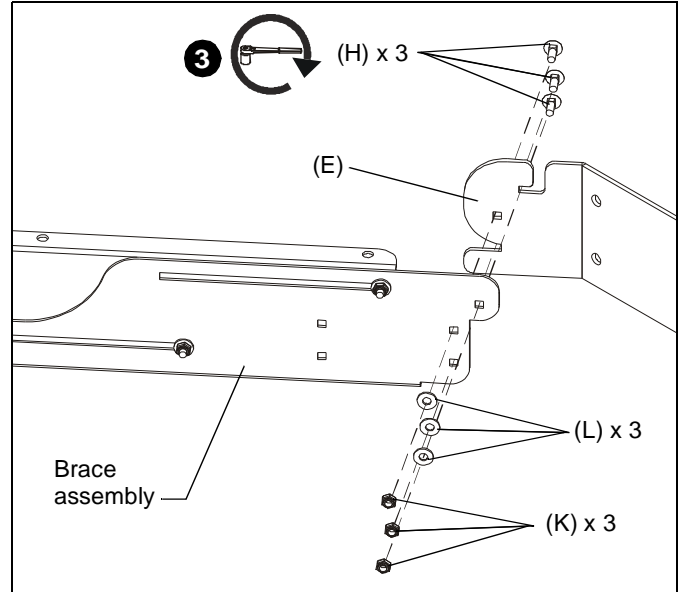

Figure 2
3. Attach one brace assembly which was created in Steps 1 and 2, to the base bracket (E) using three 10-24 x 3/8 round head carriage bolts (H), three #10 flat washers (L) and three 10-24 nylon lock nuts (K). (See Figure 2)
4. Repeat Step 3 to attach remaining brace assembly onto other end of base bracket (E).